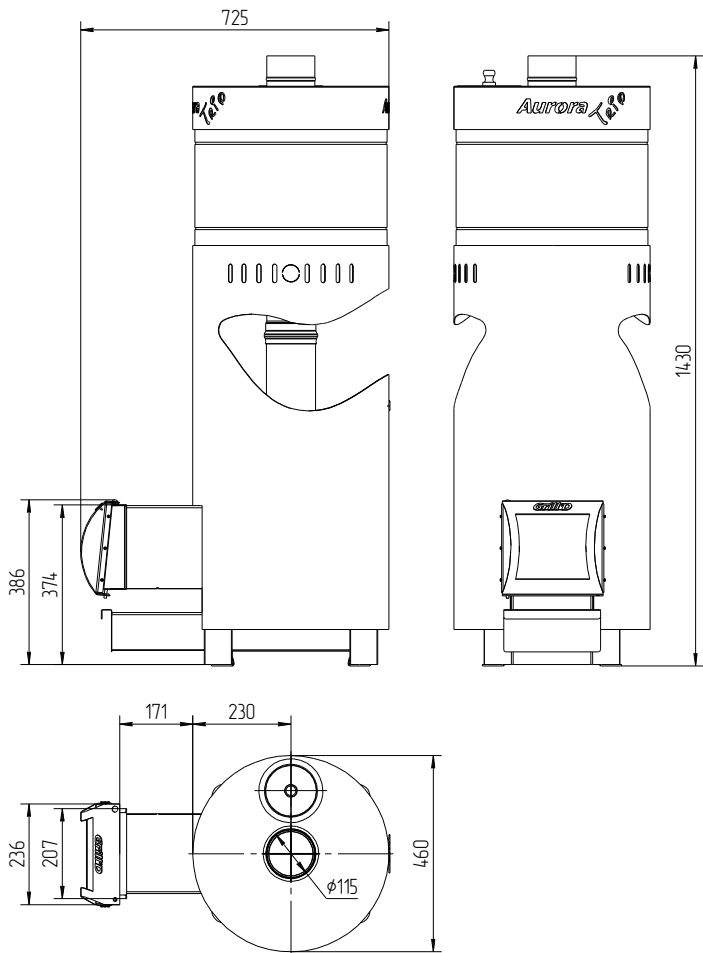

Fig. 2 Dimensions of heater Grill'D Aurora 160 Trio Long
Overall view and location of the heater main elements are shown in Figure 2. Heater firebox (6) is fabricated of high duty rolled steel. Use of such steel increases the heater's durability and service life taking into account the firebox wall thickness of 3 mm, while the most critical elements are made of 5 mm thick steel.